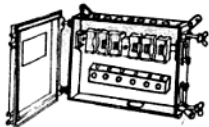

Fig. 2.4 Distribution fuse board
**Distribution Fuse Board** It consists of a rectangular iron box with a number of carrier-type fuses fitted in it (Fig. 2.4). The number